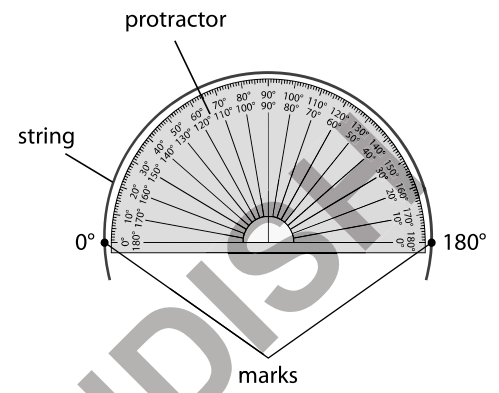

Figure 1.2
- 3 Use the string to follow the curve and make another pen mark level with the  $180^\circ$  point on the protractor, as shown in Figure 1.2.